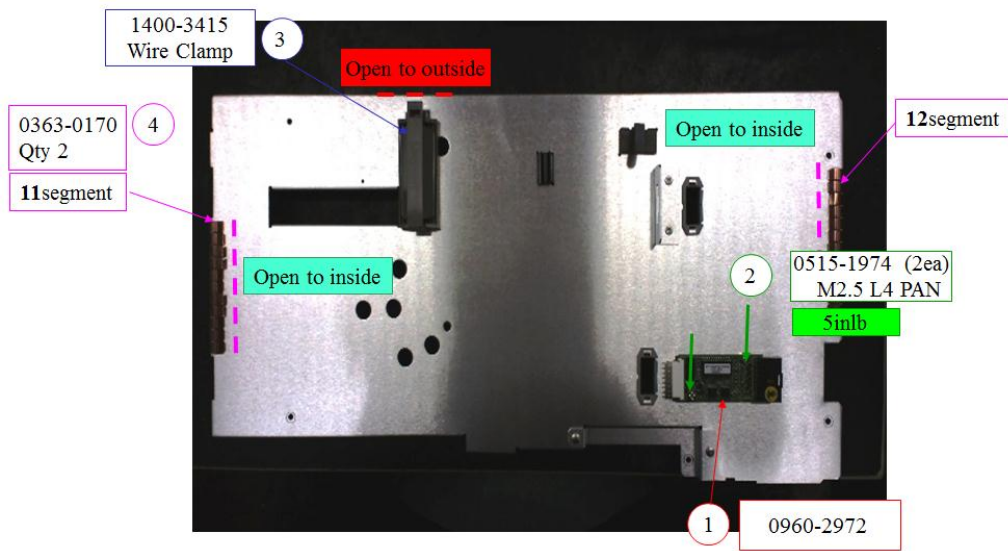

Figure 1-12
11. Install the cable clamps and Gasket (RFI fins) on the back cover as shown in figure 1-12.